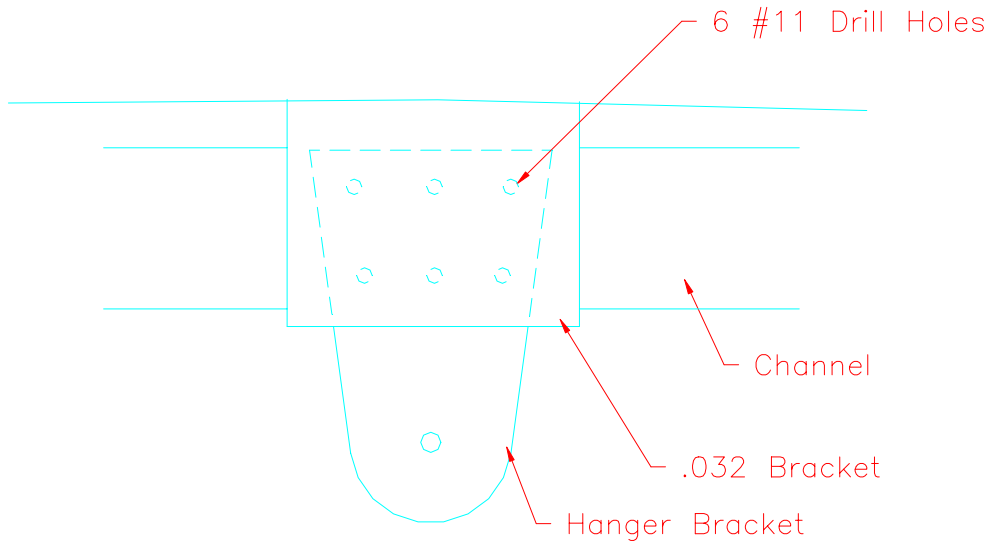

Figure 15.8.11
23) Sandwich the hanger between the channel and the .032 bracket. Figure 15.8.11.